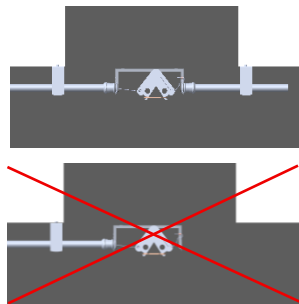

Figure 5.8
2. Detector brackets should be attached with two screws, or if placed at the duct, with two pipes that are fastened immediately at the perimeter of the opening. Refer to *Figure 5.8*.